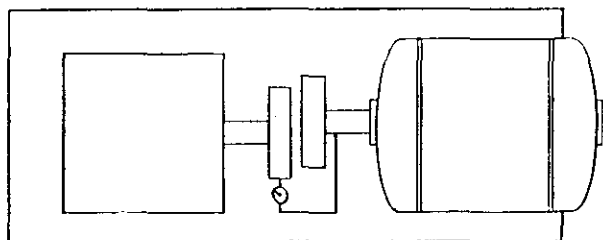

Fig. 4-1 Rim Side to Side
1. Mount a dial indicator rigidly on the driver half of the coupling and set the indicator button on the rim of the pump half (Fig. 4-1).